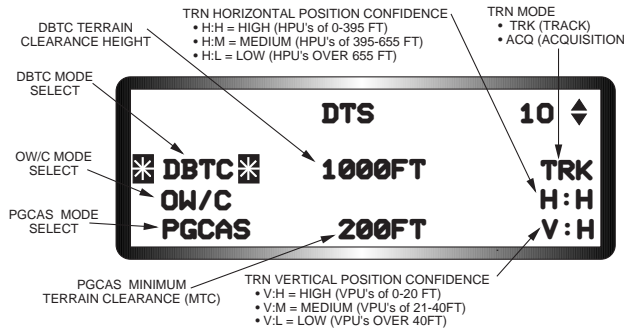

Figure 2-33 DTS Priority DED Page
**DTS Priority DED Page.** The DTS Priority page is accessed by depressing number “3” button on the ICP. The page, which is illustrated in Figure 2-33, provides the pilot with a method of selecting the DBTC, OW/C, and PGCAS DTS functions as well as a means of monitoring current TRN performance. The DTS Priority page also provides an accuracy assessment of the TRN performance by using horizontal and vertical position confidence depictions. The horizontal and vertical positions of confidence numbers shown in Figure 2-33 actually depict TRN’s Horizontal and Vertical Positions of Uncertainty (HPU and VPU) values. Low HPU/VPU values equate to high TRN confidence in the accuracy of the current aircraft horizontal and vertical position estimates in the DTS database. Low HPU and VPU values are reflected on the DTS Priority page as high horizontal and vertical positions of confidence ( H:H and V:H). A DTS “OFF” status is displayed on the DED Priority page whenever the DTS capabilities hosted in the DTS/DTC are unavailable. In addition, the horizontal and vertical position confidence depiction’s are removed from the display and the ability to select the PGCAS, OW/C, and DBTC DTS functions are inhibited. Typically, the DTS “OFF” Status is driven by malfunctions in the DTS/DTC, failure to ensure that the DTS/DTC is ”locked” in the DTU, or using a standard DTC instead of the DTS/DTC.
**DTS PGCAS Displays and Advisories.** PGCAS-related DTS displays and advisories can be found primarily on the HUD and DED. The PGCAS functions are controlled from the DTS Priority DED page, Figure 2-33. The PGCAS function is selected by “dobbering” down to place the asterisks about the PGCAS mnemonic and depressing the M-SEL button to highlight it. The MTC altitude is initialized at 200 feet AGL on initial MMC power-up. The MTC may be changed by “dobbering” down to place the asterisks about the PGCAS MTC field, entering the desired AGL altitude from 50 to 9999 feet in 1 foot increments, and depressing ENTR. If DBTC is enabled, the PGCAS MTC will be based on the selected DBTC Terrain Clearance Height (TCH) instead of the default or previously selected MTC. This automatic MTC selection cannot be overridden as long as the DBTC function is active. The MTC displayed on the DTS Priority page will be used in all master modes except A-G when dive angles are less than 20 degrees, bank angles are less than 40 degrees, and airspeeds faster than 325 knots CAS. In these situations, the MMC automatically resets the MTC to 50 feet to reduce false warnings. The MMC will automatically revert the PGCAS computations to the last left MTC (as previously selected by the pilot or the DBTC function) when the flight conditions above cease to exist and the current aircraft AGL altitude is above the last left MTC. MMC power cycles occurring on the ground while the INU is being aligned (not in NAV) will cause the MTC to reset from a previously selected MTC to 200 feet. Otherwise, MTC settings will be retained as last left through airborne or ground MMC power cycles. The baseline F-16 Ground Avoidance Advisory Function (GAAF) warnings are independent of the DTS PGCAS function or MTC settings.
**Displays and Cues.** The DBTC function is controlled from the DTS Priority DED page shown in Figure 2-33. The DBTC function is initialized to the disabled state and must be enabled after take-off when the landing gear is up and the TRN is in TRK mode. DBTC may be selected or de-selected by “dobbering” down to place the asterisks about the DBTC mnemonic and depressing the M-SEL button to either highlight (enable) or de-highlight (disable) the function. After enabling the DBTC function, the TCH altitude will initialize to 1000 feet AGL but may be changed by “dobbering” down to place the asterisks about the TCH altitude and depressing any key 1 through 9 on the UFC. Depressing any key 1 through 9 will rotary the TCH selections as follows: 1000 ft. - 500 ft. - 300 ft. - 200 ft. - 100 ft. and back to 1000 ft. Once the desired TCH is displayed, no further action is needed to input it into the DTS system.